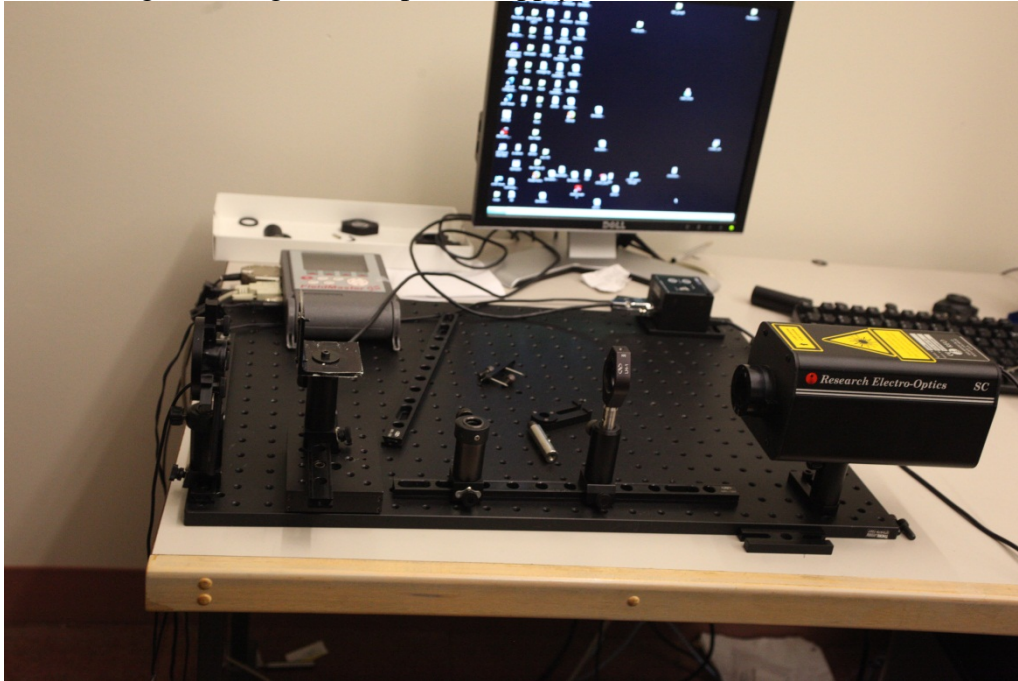

Figure 1: Overall lab setup
In this lab you will gain experience on building a simple beam expander for an He-Ne laser. You will be using the He-Ne |1 mW laser which is mounted on a post. The laser will be needed to be aligned on an optical peg board to an optical rail along which slides two "lens mounts" with adjustable posts and holder. Include error measurements where needed. Please contact the TA by email to setup a time for doing the lab. Also have the TA help you with the initial setup to make certain everything is working. Lab is done in the laser lab (ASB 10878) (the TA may also be in the lab so check there). Figure 1 shows the overall lab setup. Also before running the lab read the Appendix 1 tips section and refer to it if there are problems.
(2) For the xyz axis directions in this lab look at Figure 1. The laser is pointing in what we will call the x axis. The rail and lens holders run in that axis. The direction towards the screen is the y axis, and the vertical is the z axis. If the rail is not installed (last group has moved it) you may need to bolt it in place. Use the peg board holes that are in line with the silicon detector.
(3) In preparation for the lab, or during the lab, design a beam expander (Galilean type) to increase the beam size by a factor of 2.0 – 2.5 within the 35 cm length of the rail. You have the following lenses (all Plano Convex or Concave) focal lengths in mm:
The lens kit will be either on the table or on the larger vibration isolation table behind the main setup (plastic box or wooden box). Please keep the fieldmaster laser power meter at the back (see Fig 1 and Fig 5) as its power supply is delicate.
(12) Now we move onto the beam expander section. Remove the laser pointer and again use the HeNe laser. Start to build up the designed beam expander with the equipment available (see Figure 1). To build this telescope, first insert the far lens (long focal length) in the lens mount. Adjust the height so the beam is in the centre of the lens. Make certain it is perpendicular to the rail. To do this watch where the reflected spot from the lens hits the laser – it should be near the laser emission window. Rotate the lens until you get this. This is called to autocorrelate the lens. If you are using plano convex lenses use the flat side of the lens towards the laser for this.